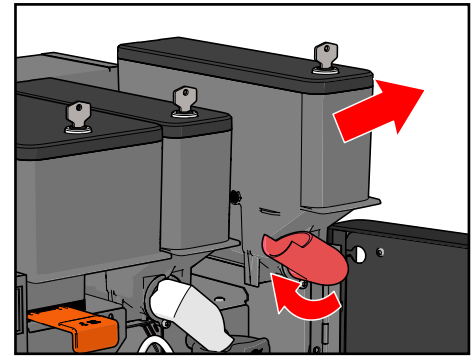

Figure 61.
2. Turn the spouts of the instant product canisters upwards and remove the product canisters from the machine (see Figure 61).